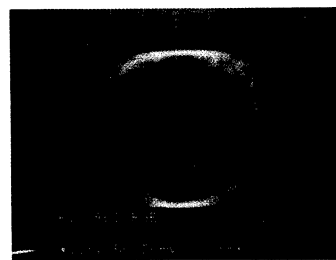

Fig 1.
4. Set the oscilloscope to X-Y operation, and while observing the lissajous waveform adjust P103 to the point where the phase difference is 90° as shown in Fig.1 below.